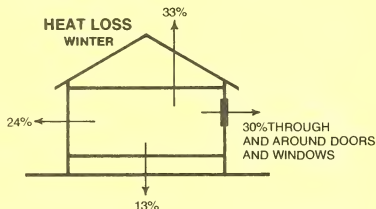

Figure 1. Points of winter heat loss.
Step 1. Find the recommended R values for the St. Louis, Mo., area. The map in figure 1 indicates these to be R-30/19/19. This means it recommends R-30 for ceilings, R-19 for walls, and R-19 for floors. Therefore, for the ceiling, R-30 is the total insulating value to be achieved.
Figures 1 and 2 indicate where insulation or other protective measures are most needed.